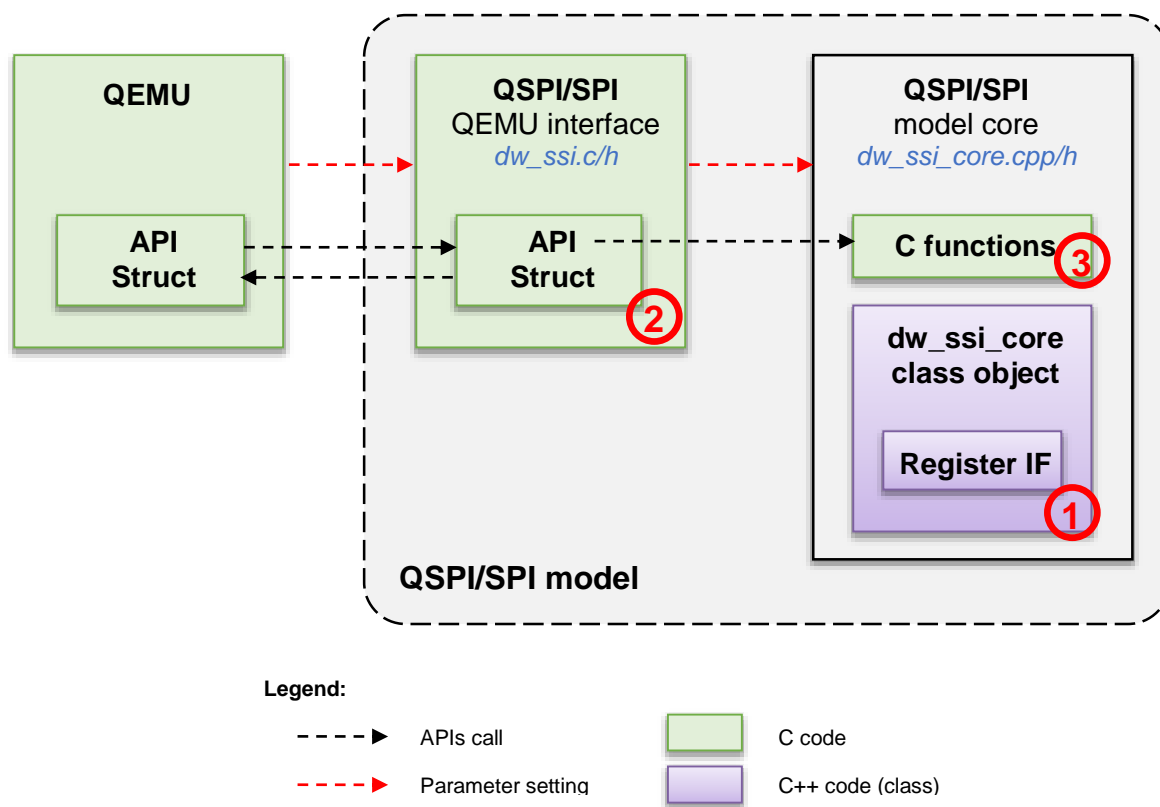

Figure 3.1: Block diagram of QSPI/SPI model.
- (1) The model core part includes Register IF part which is generated by Register IG Generator tool. Both the model core and Register IF part are C++ codes (Number 1 in Figure 3.1).
- (2) A model integrating to QEMU has to use QEMU APIs and struct definitions. QEMU also call APIs and structs defined by the model. The model's QEMU interface should be written in C (Number 2 in Figure 3.1).
- (3) To mix the model core part (C++) with the QEMU interface part, some additional C functions should be added to the model core (Number 3 in Figure 3.1), in order to pass the object of `dw_ssi_core` C++ class to the C functions of the interface part. Example of additional functions are described in Figure 3.2 below.
- (4) With this structure, the QEMU interface has to be released under the GNU General Public License (GPL) of QEMU source code. The model core part can be released without the GPL.